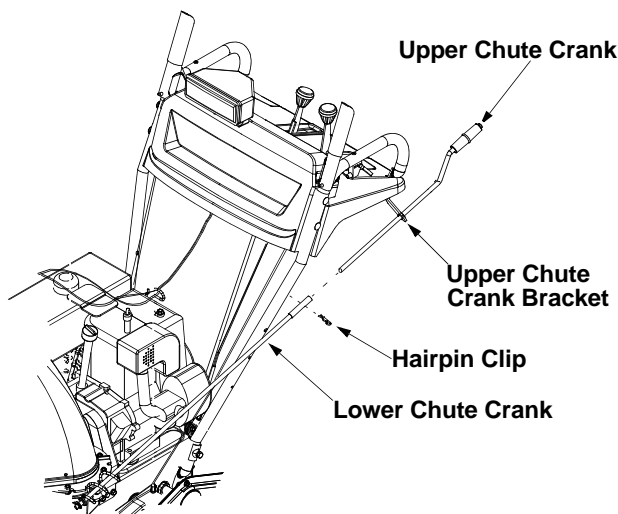

Figure 4
- Align the two holes on both chute cranks and secure with the hairpin clip removed earlier. See Figure 4.